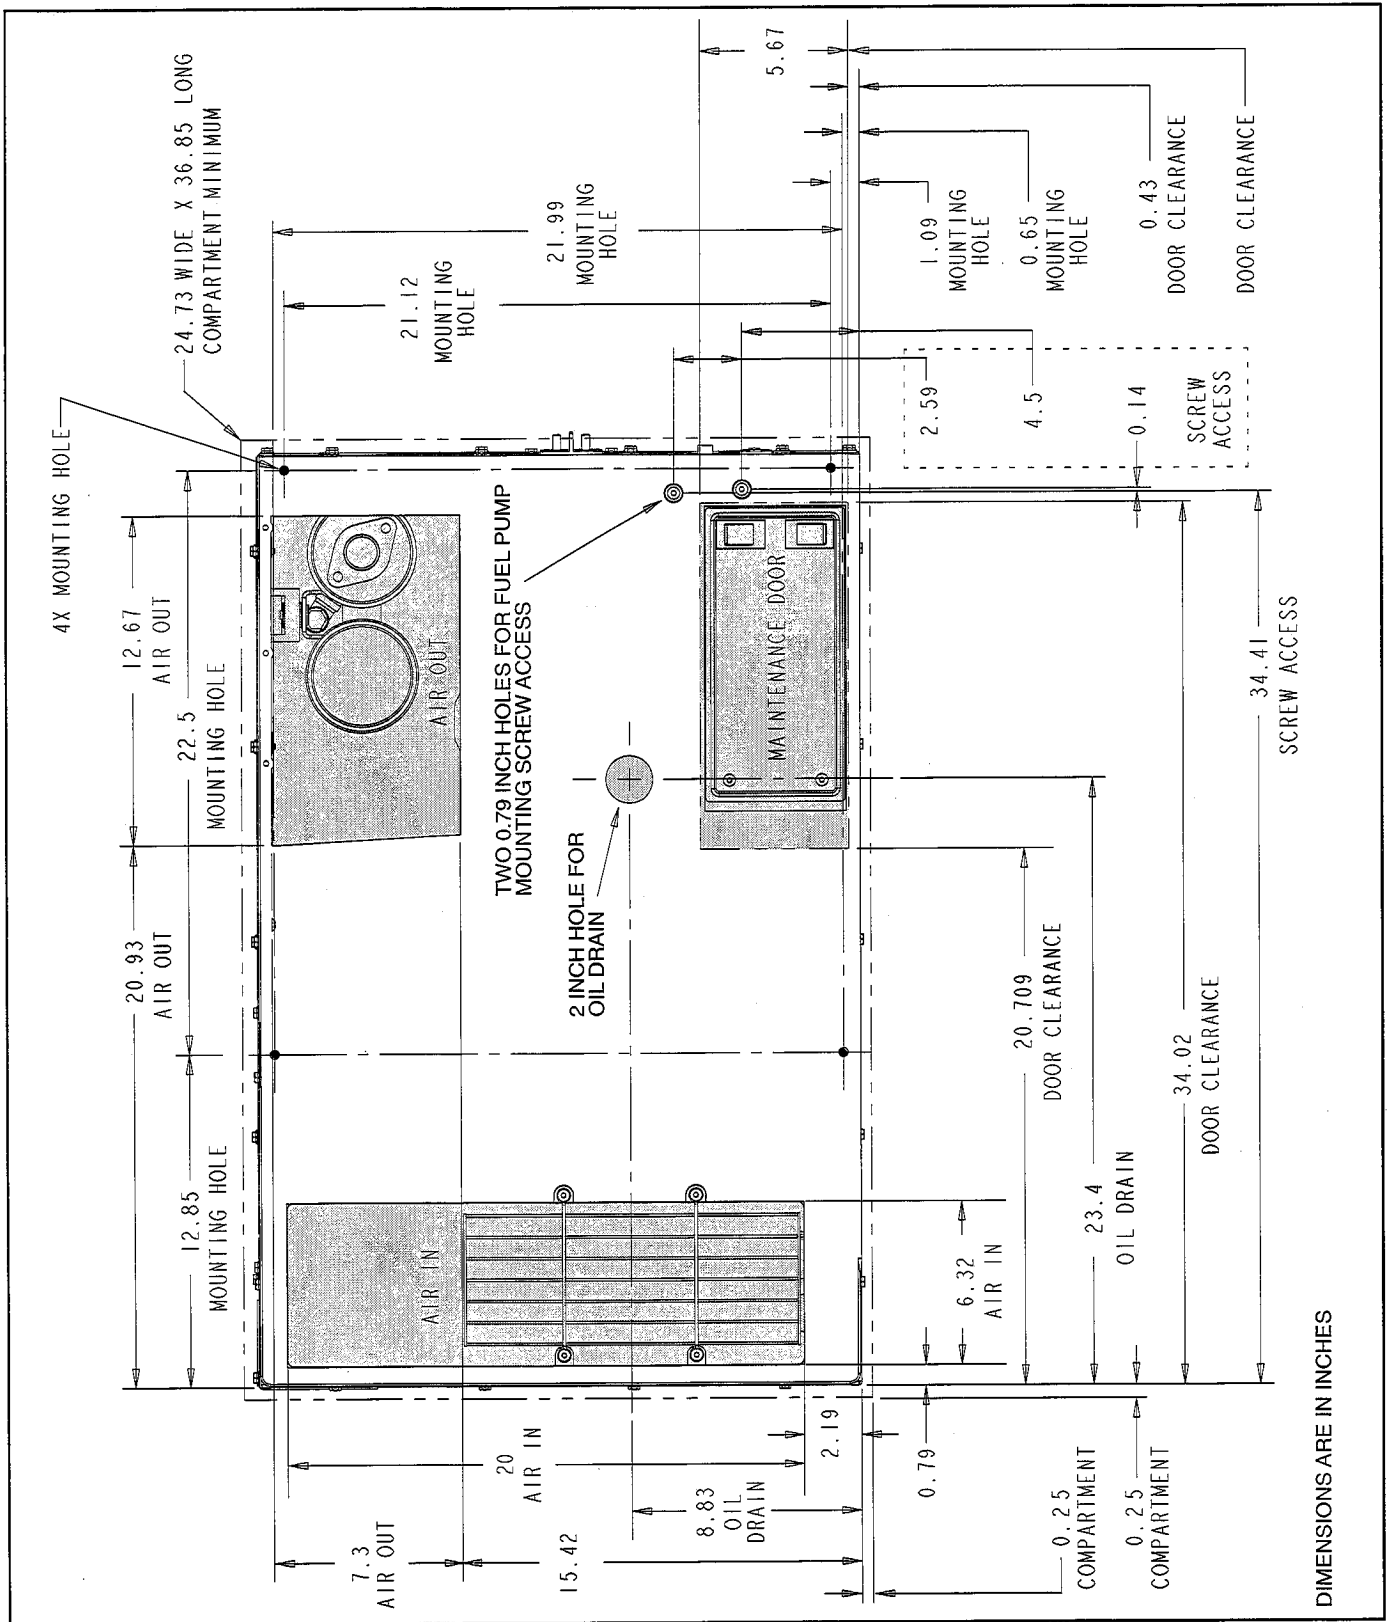

FIGURE 2. FLOOR PLAN
4. Provide at least 0.5 inch (12.7 mm) clearance to the top and 0.25 inch (6.4 mm) clearance to the sides of the genset. See Figure 2. At these
6. Provide cutout openings in a compartment floor that are at least as large as the cooling air inlet and outlet openings in the bottom of the genset (shaded areas in Figure 2). **Frame cross members must NOT cut across the openings.**
7. Make sure that vehicle components located below the genset, including the genset exhaust tailpipe, will not interfere with draining coolant, engine oil and removing the oil and fuel filters. The maintenance door in the base of the genset must be able to swing open a full 90 degrees without interference (Models HDKAJ and HDKAK). (See shaded area in Figure 2 for cut-out area.)
8. Provide access for removing the two fuel pump mounting screws so that the genset does not have to be removed to replace a fuel pump. See Figure 2.